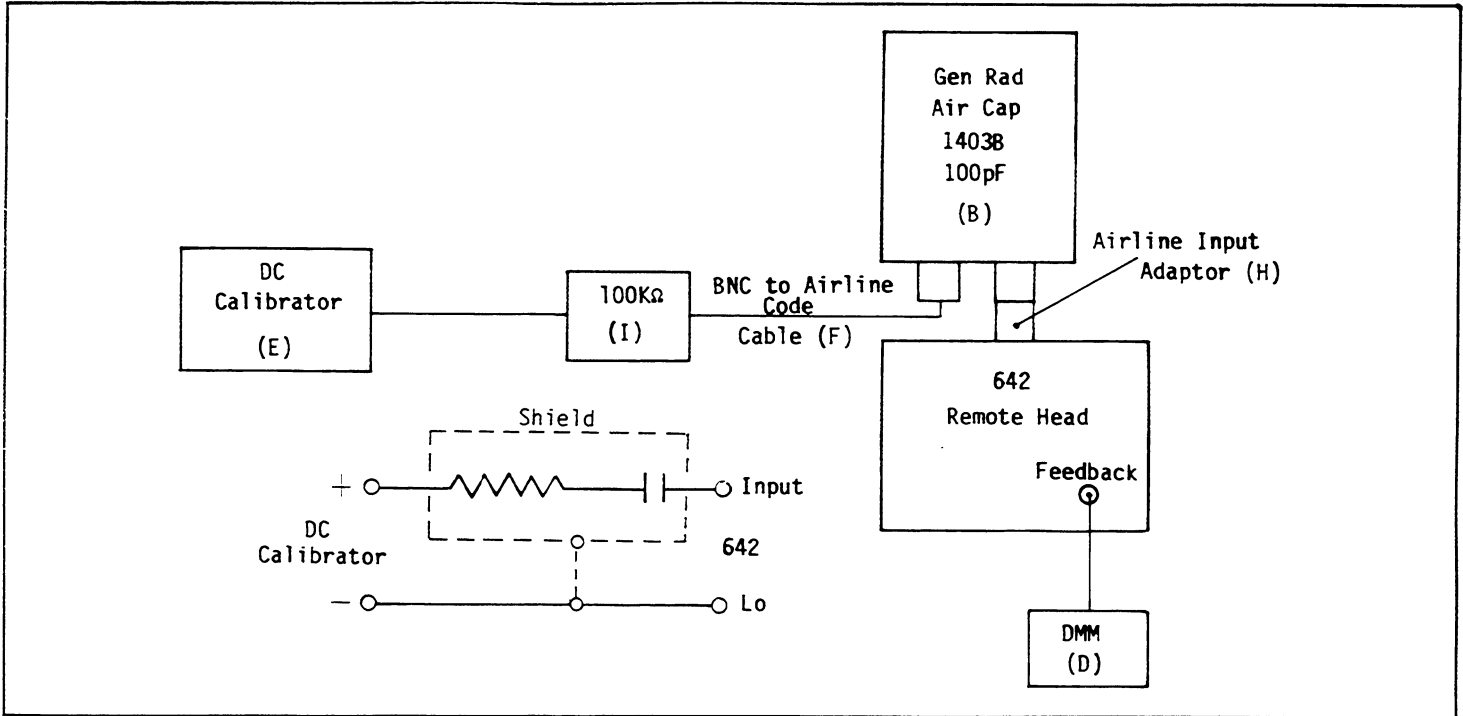

FIGURE 3-1. Circuit for Coulombs Accuracy Verification
- Set up the circuit shown in Figure 3-1 using the equipment listed in Table 3-1.
- With the DC Calibrator (E) set to -0- volts, ZERO ADJUST the display for a .000 reading.